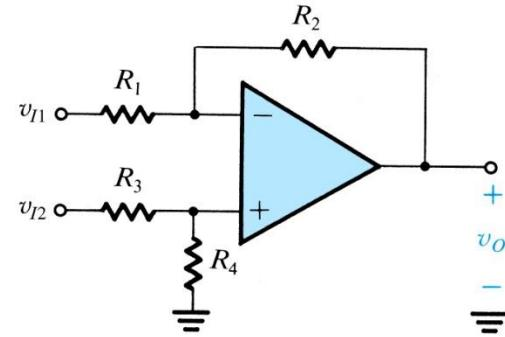

Figure 2.16
- The difference amplifier of Figure 2.16 is designed with  $R_4/R_3 = R_2/R_1$ , resulting in  $v_o = (R_2/R_1)(v_{I2} - v_{I1})$ .